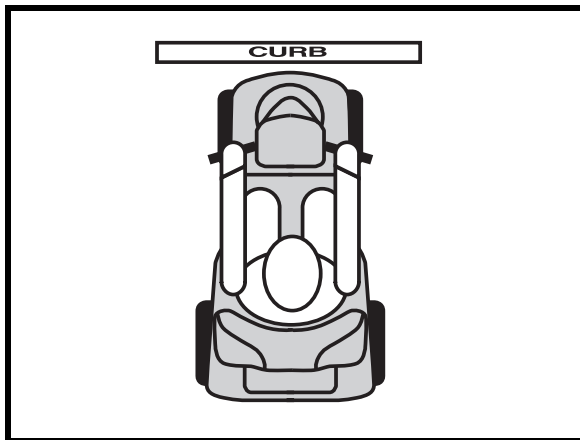

Figure 3. Correct Curb Approach
**WARNING! Be sure your Travel Scooter is traveling perpendicular to any curb you may be required to ascend or descend. See figures 3 and 4.**